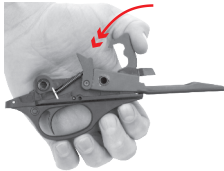

Fig.19
7. When reinstalling the trigger group, the hammer must be in its cocked position. To cock the hammer, pull down on the hammer with your thumb until it locks into place as shown in (Fig.19).